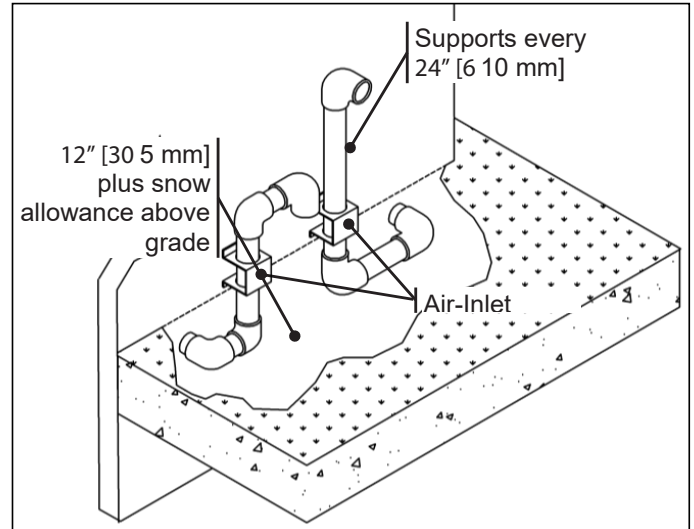

Figure 31 - Venting Below Grade
- Excavate the site to a point where the pipes are to exit as shown in Figure 31.